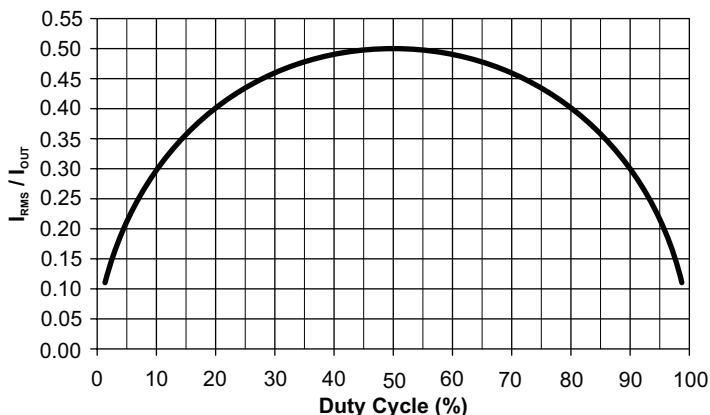

Figure 5: Input Capacitor Ripple vs. Duty Cycle
where the duty cycle D is $D \approx V_{OUT} / V_{IN}$. Figure 5 shows the normalized input capacitor RMS current versus duty cycle. To use this graph, simply find the operational duty cycle (D) on the x-axis and determine the input/output current multiplier on the y-axis. For example, at a 20% duty cycle, the input/output current multiplier is 0.40. Therefore, if the regulator is delivering 3.0 A of steady-state load current, the input capacitor(s) must support 0.40×3.0 A or 1.2 A_{RMS}.